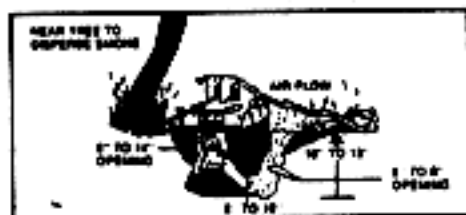

Figure 11-17. Dakota Fire Hole
- (1) That is protected from the wind.
- (2) That is suitably placed in relation to your shelter (if any).
- (3) That will concentrate the heat in the direction you desire.
- (4) Where a supply of wood or other fireburning material is available.
- (5) If you are in a wooded or brush-covered area, clear brush away and scrape the surface soil from the spot you selected. The cleared circle should be at least 3 feet (1 meter) in diameter so that there is little chance of the fire spreading.
c. Dakota fire hole. In some situations you may find that an underground fireplace will best meet your need. It conceals the fire to some extent and serves well for cooking food. To make an underground fireplace or Dakota fire hole (figure 11-17):
- (1) Dig a hole in the ground.
- (2) On the upwind side of this hole, poke one large connecting hole for ventilation.
- (3) Build your fire in the hole as illustrated.